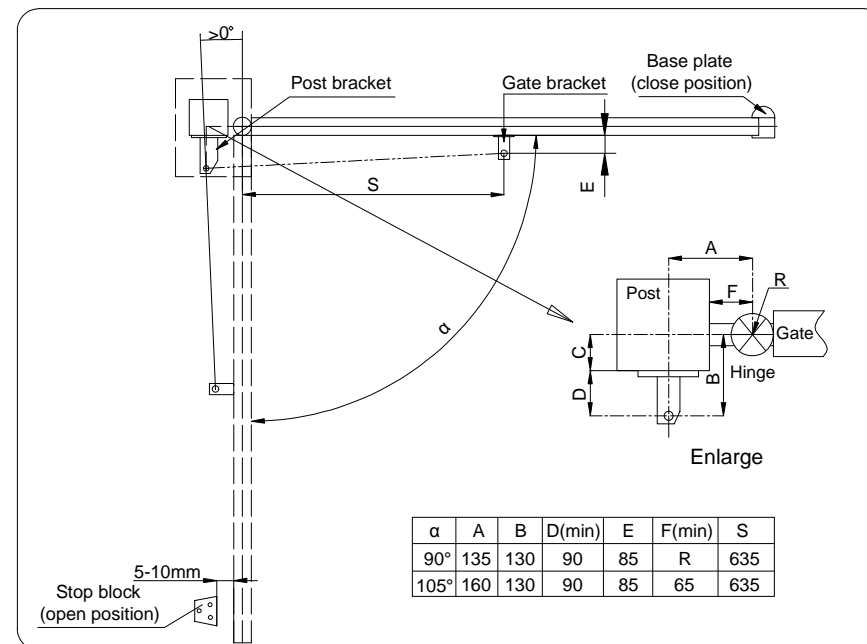
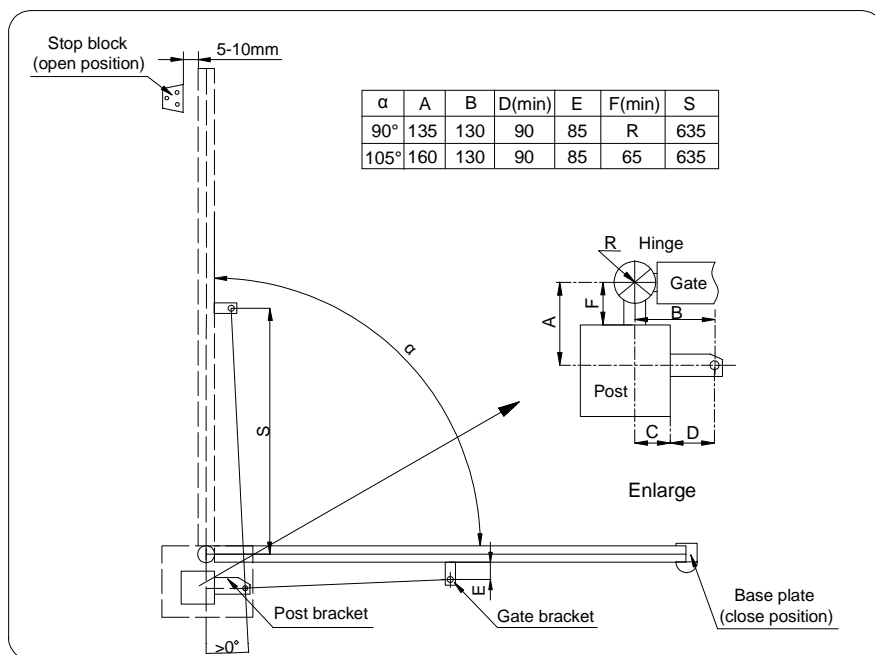
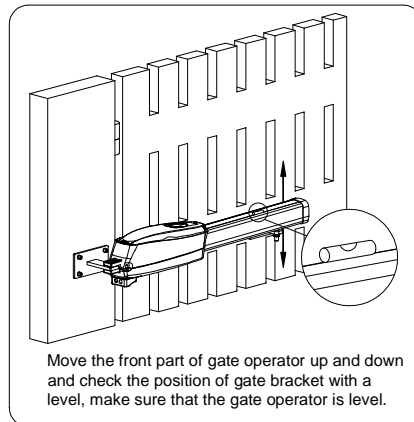

Fig.1 Pull to open mounting geometry
Fig.2 Push to open mounting geometry
Fig.12
- Move the front part of gate operator up and down slowly, check the installation height of the gate bracket, fit the gate bracket to the gate, and the centerline of the gate bracket should align with the vertical line, and use a level to check the flatness of the operator (See Fig.12). Tack weld the gate bracket on the gate, the bracket installation should meet the specifications as shown in Fig.1 and Fig.2.
- After the gate reaches the desired angle ( $90^\circ$  or  $105^\circ$ ), ensure 5-10mm space exists between the gate and stop block See Fig.1 or Fig.2. This margin is required to prevent the gate from bumping on the stop block.